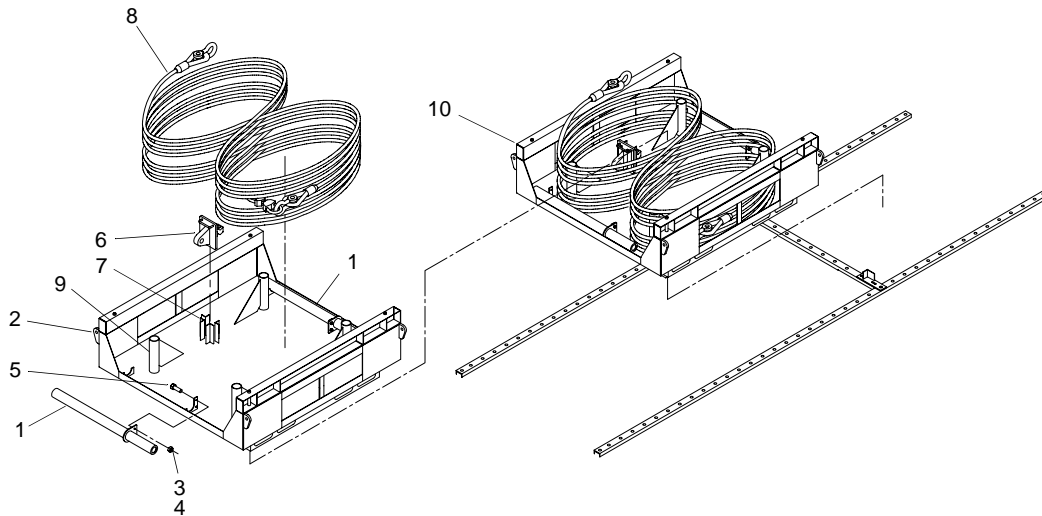

Figure 26. Mooring Leg Stowage
- 15. Secure two anchor stabilizers (figure 26, item 1) to upper mooring cable pallet (figure 26, item 2) with nuts (figure 26, item 3), lockwashers (figure 26, item 4) and bolts (figure 26, item 5).
- 16. Place the deadman padeye (figure 26, item 6) in pallet fixture (figure 26, item 7).
17. Using assistant, wind the mooring leg cable assemblies (figure 26, item 8) in a figure eight pattern around the cable guides (figure 26, item 9).
18. Repeat step 15 through step 17 for lower mooring cable pallet (figure 26, item 10)
19. Using forklift, place upper mooring cable pallet (figure 26, item 2) on lower mooring cable pallet (figure 26, item 10).